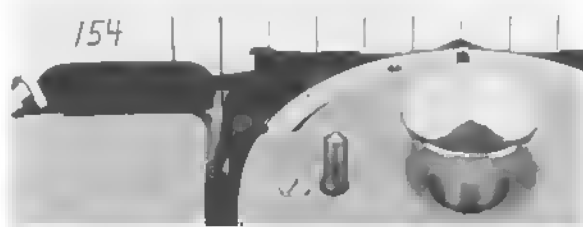

Figure 73
- Free roll paper and move carriage positioning left alignment guide under blue pencil mark for rule at 154. Hold paper against guide rolling feed rolls (paper) until approximating same position as noted for test rule and lock feed rolls (Figure 73).